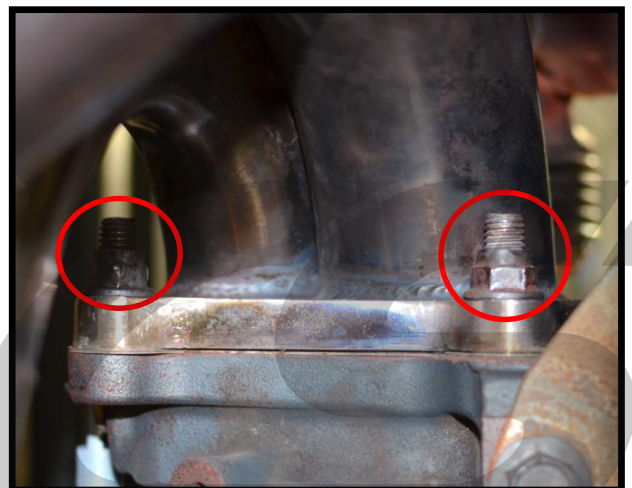

Figure 6e
- f) Remove the lower remaining two 14mm nuts from the downpipe, circled in red in Figure 6e.